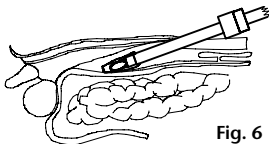

Fig. 6
2. If necessary, put sterile lubricant onto the distal end of the balloon system and introduce it through an existing access port into the prepared extraperitoneal space. While introducing the balloon system and during the surgical intervention, make sure that the balloon is not damaged by other instruments. (Fig. 6)